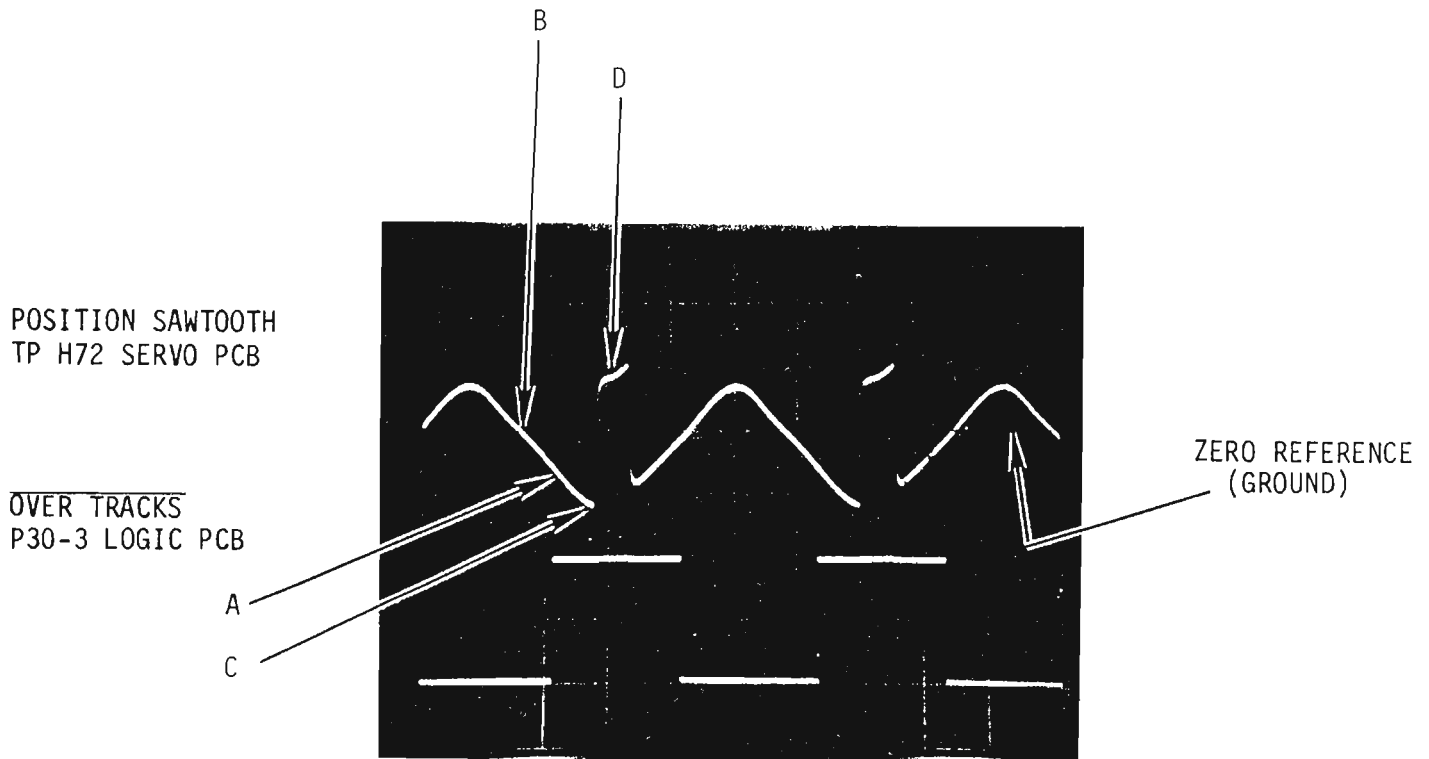

FIGURE 6 TRACK 0 SENSOR FINE ADJUSTMENT WAVESHAPES
4. Adjust the position of the Track 0 sensor until P30-3 (TP P74 for 12065-01 artwork) switches high at point "A" in the Position Sawtooth waveshape as in Figure 6. Point "A" occurs at the vertical midpoint between points "B" (Reference point) and "C" (negative peak of Position Sawtooth waveshape). This may be seen more easily by superimposing the two waveshapes via readjustment of vertical position controls. When the adjustment is correct, pulse "D" will not exceed 1.5 ms in duration.